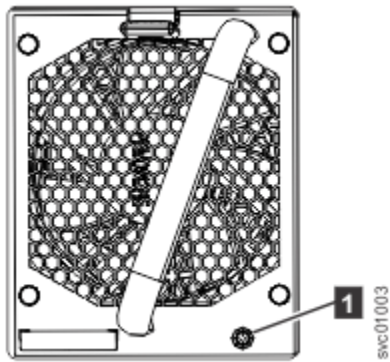

Figure 123. Fan module LED
**Important:** Because this task is disruptive to the storage system, always attempt fan replacement first. See “Removing a fan module” on page 101 and “Installing or replacing a fan module” on page 81 for information about the removal and replacement procedures. Ensure that both fans are installed correctly. Perform the following procedure only if the amber fault LED on each fan remains lit (1 in Figure 123 on page 104).